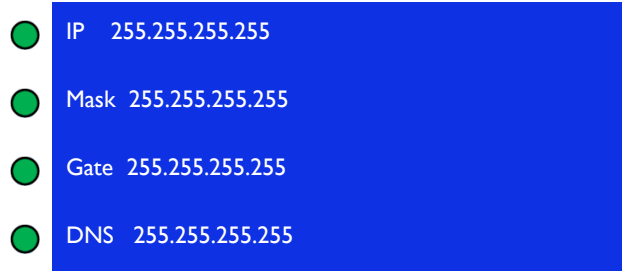

Figure 17: Screen to Edit Operational Parameters
- Screen 2 appears (Figure 17) displays the IP address, Mask, Gate, and DNS and has an interactive mode so you can edit these parameters.
- When DHCP is enabled and you want to disable DHCP so you can enter a static IP address, press ✓ and wait a few seconds. The screen in Figure 17 appears